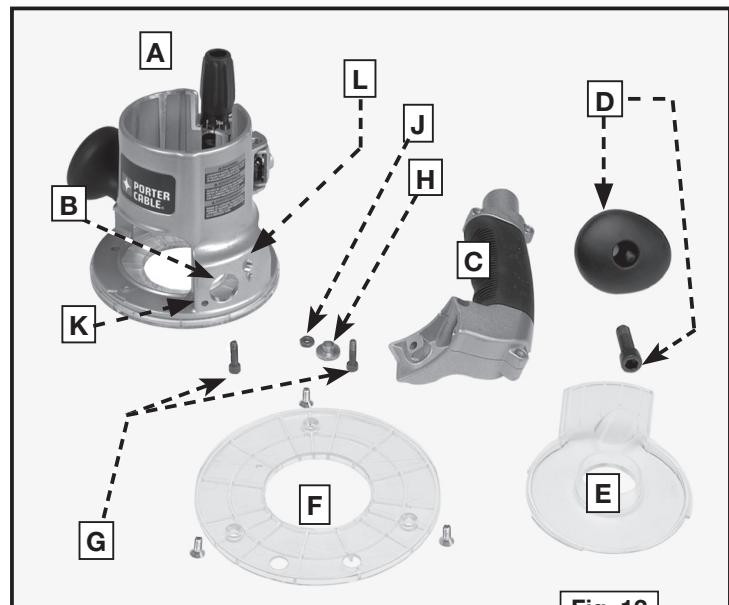
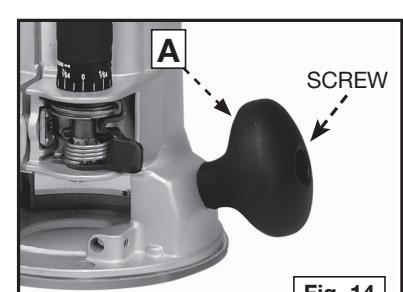

Fig. 12
Fig. 14
GRIPVAC® PARTS (FIG. 12)
1. Use a 5/16" hex wrench to loosen the screw in the handle (A) Fig. 14. Remove the handle from the router base. Store the handle and screw for possible later use.
2. Remove the plastic plug from the dust port (B) Fig. 12.
5. Insert a hex screw (G) Fig. 12 through the handle into the hole (L). From inside the base housing, place a shoulder washer (H) and a hex nut (J) on the screw. Tighten the nut loosely.
6. From inside the base housing, insert the second screw (G) into the hole (K) and screw it into the threaded hole of the GripVac® handle.
7. Turn the router base upside down and place the dust deflector (E) Figs. 14 and 18 into the bottom of the router base by aligning the three plastic tabs on the deflector with the three recesses in the base. Align the extended part of the deflector (B) Fig. 16 with the GripVac® handle. The deflector will be flush with bottom of router base.